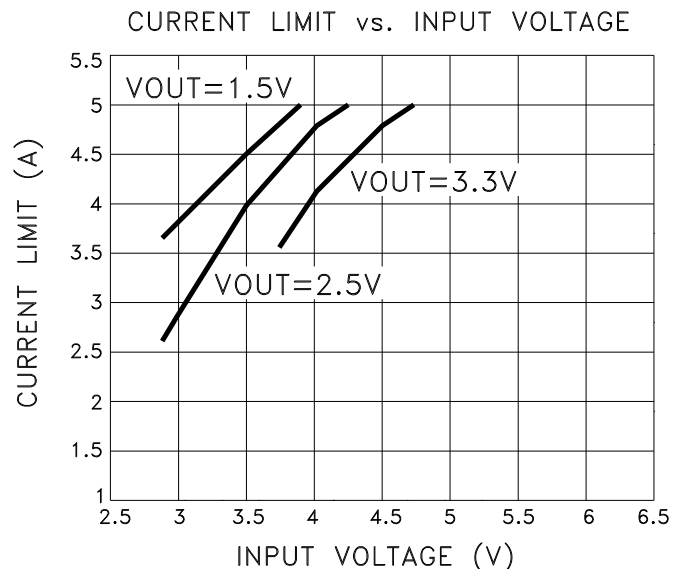

FIGURE 1
- ⑦ Output current limit is dependent upon the values of V_{IN} and V_{OUT} . See Figure 1 and typical performance curves.
- ⑧ Continuous operation at or above absolute maximum ratings may adversely effect the device performance and/or life cycle.
- ⑨ V_{IN} shall be as specified or V_{IN} Min, whichever is greater.
- ⑩ Not applicable when $V_{OUT} < V_{IN}$ Min - dropout voltage maximum.
- ⑪ Pre and post irradiation limits, up to 300Krad TID, are identical unless otherwise specified.
- ⑫ Reference DSCC SMD 5962F09216 for electrical specification for devices purchased as such.
The MSK 5821RH current limit function is directly affected by the input and output voltages. Figure 1 illustrates the relationship between VIN and ICL for various output voltages. It is very important for the user to consult the SOA curve when using input voltages which result in current limit conditions beyond 4.5 Amps. When using input voltages which result in current limit above 4.5 Amps, the user must maintain output current within the SOA curve to avoid damage to the device. Note that 5 Amp maximum is due to current carrying capability of the internal wirebonds.